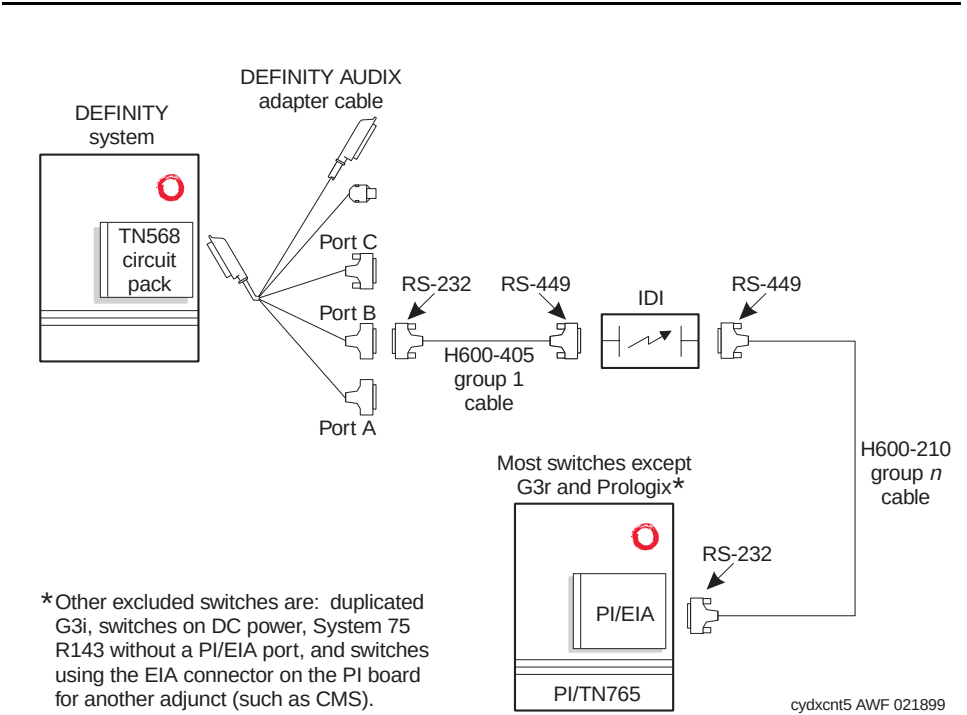

Figure 2-12. Connecting the Control Link Cable to the PI via an IDI
1. Connect the equipment as shown in Figure 2-12.